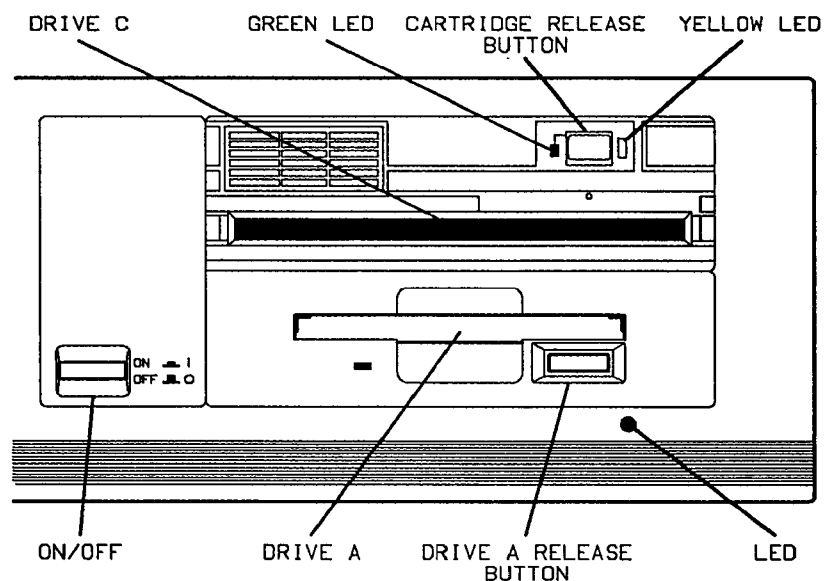

Figure B-7. SI Front Panel Features
- Smart Interface (SI) figures B-7 and B-8.